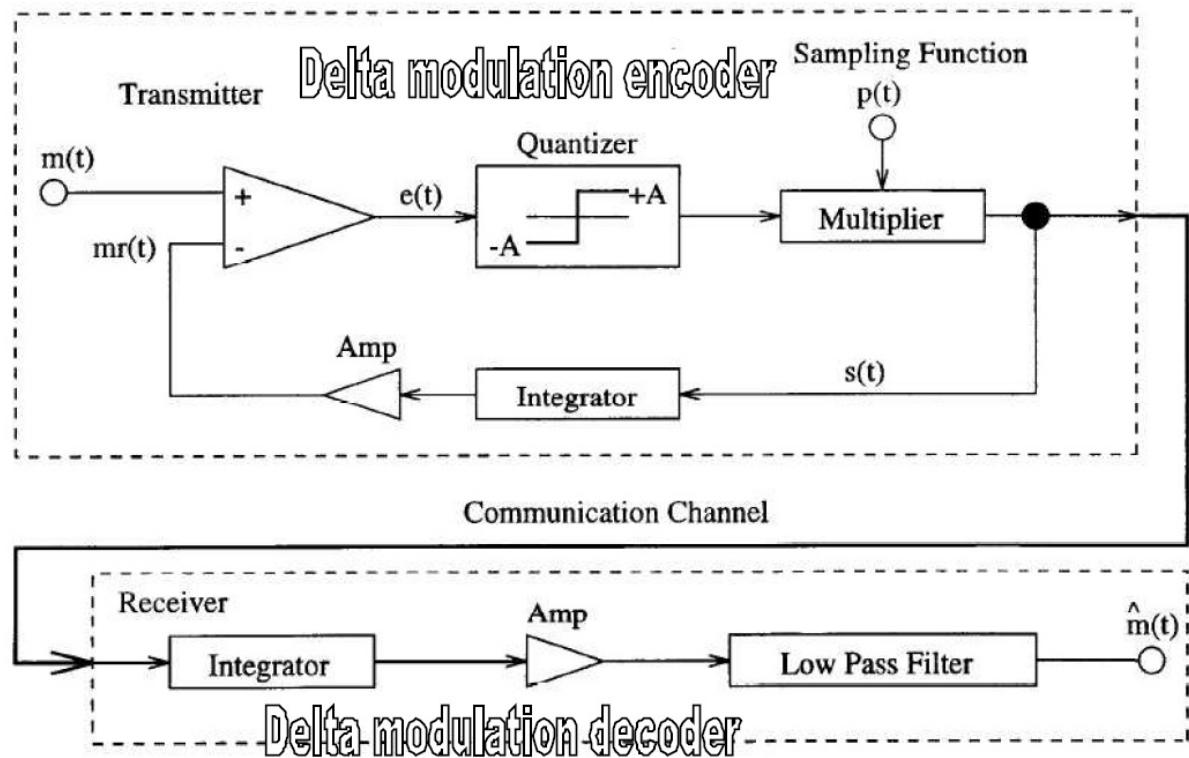

Figure 3.1: Delta modulation system. Upper block is for encoder and lower block is for decoder.
With Delta Modulation (DM) a train of fixed width pulses is transmitted, whose polarity indicates whether the demodulator output should rise or fall at each pulse. The output is caused to rise or fall by a fixed step height at each pulse. A block diagram of DM system is given in Figure 3.1.